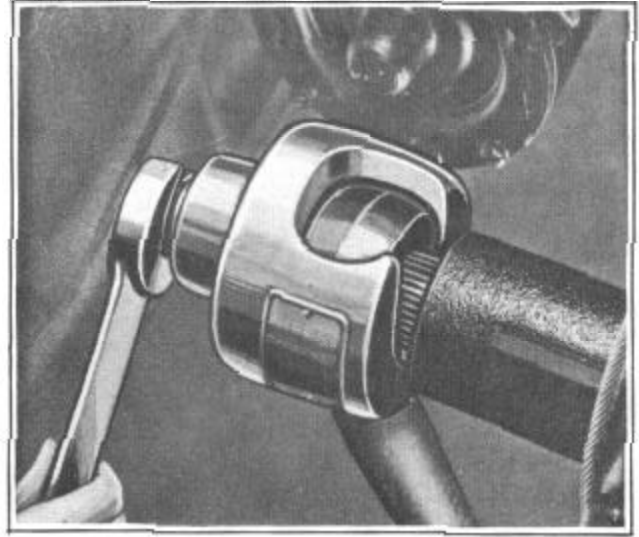

FIGURE 6
2. Using puller No. J-1374, Figure 6, remove pitman arm.
5. Install jaws of Puller J-1374, Figure 6 on inner shoulder of pitman arm and turn puller screw tight against gear shaft to remove pitman arm.